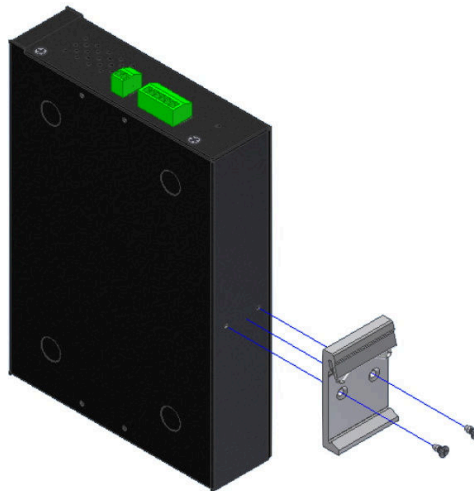

Figure 2.4.2
1. Install the DIN-Rail mounting plate to the NV-700I. (Figure 2.4.2)